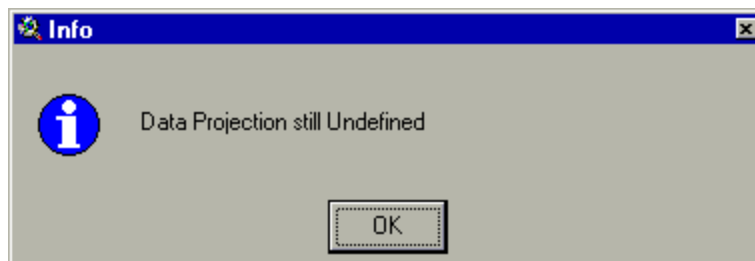

Figure 5.52
- a. If the projection is left undefined, another message box will appear (Figure 5.52).